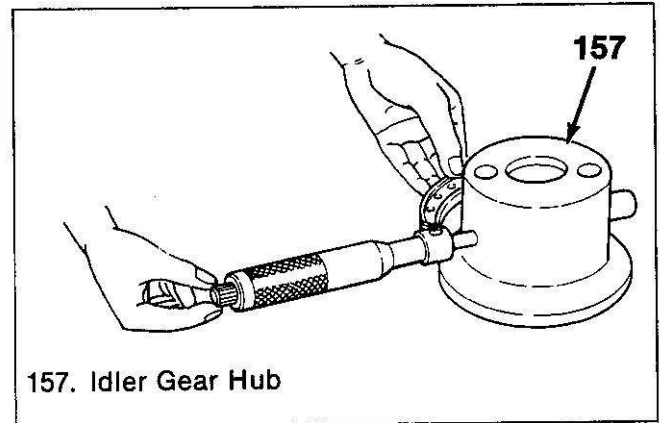

Figure 83. Measuring Idler Gear Hub Diameter
- Hub outside diameter, using a micrometer (figure 83).